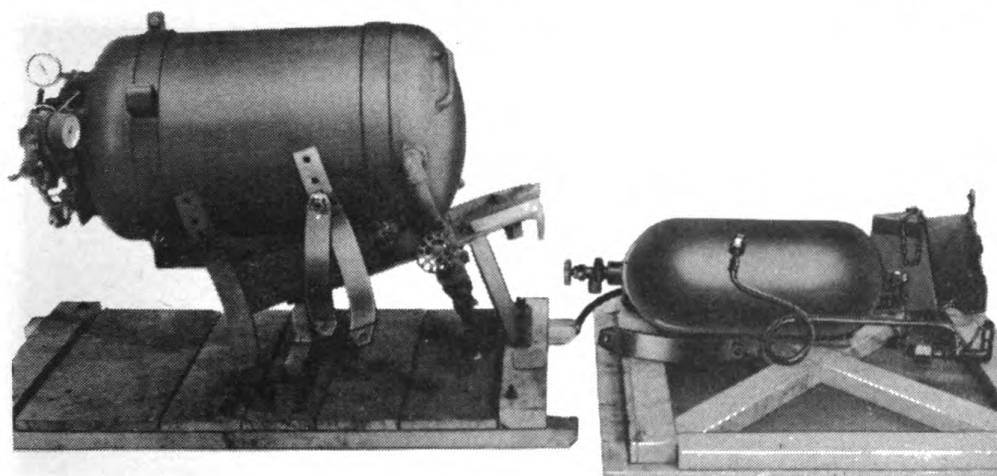
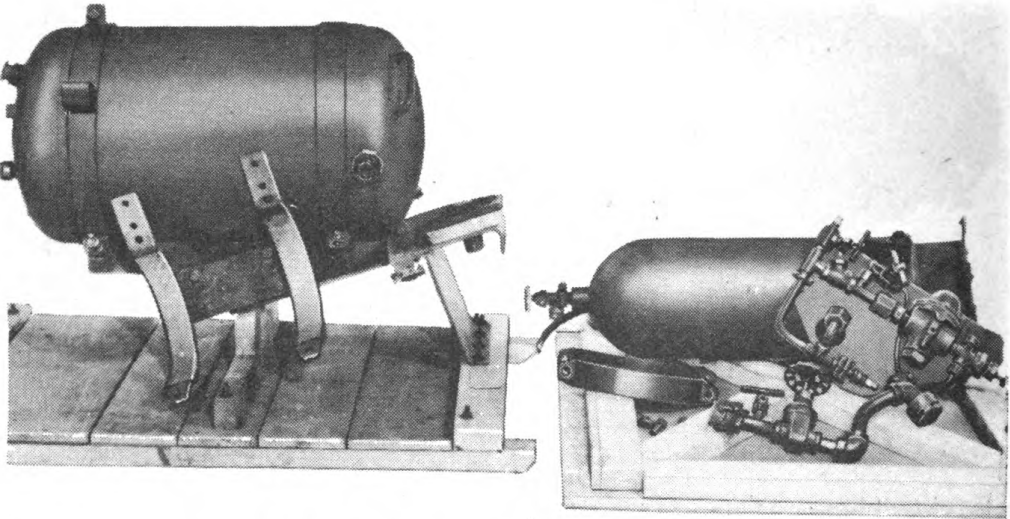

Fig. 27. Transmission fuel group with gun rack, loop, left front pressure container strap, and pressure container removed.
Fig. 28. Transmission fuel group with fuel outlet piping, pressure line plate, and right front fuel container strap removed.
(6) Remove two nuts from bottom of right front pressure container strap. Loosen two nuts at top of right front pressure container strap. Remove pressure container by sliding toward pressure line plate (fig. 27).
(7) Unscrew the two screws on fuel line clamp with screw driver.
(8) Disconnect union at fuel container outlet with one wrench on the nut and other wrench on hex of union, turning clockwise when facing the equipment. Attach half union protector to fuel outlet of fuel container. Screw thread protector cap on fuel outlet piping. Lift off fuel outlet piping and the clamp.
(9) Disconnect union between fuel container and pressure line.
(10) Unscrew the three stud bolts which hold pressure line plate to fuel container. Remove plate, bolts, and lock washers (fig. 28). A synthetic rubber washer is located at this connection. With synthetic rubber washer in place on inlet, screw thread protector cap on union of fuel container pressure inlet.